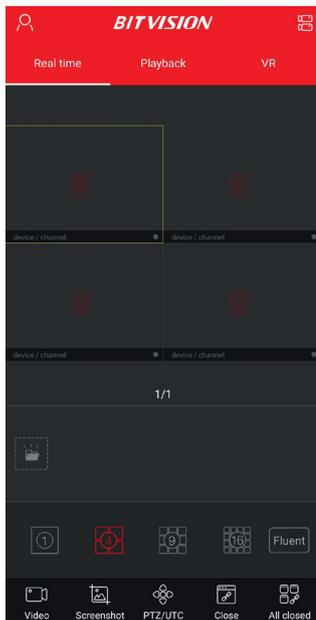
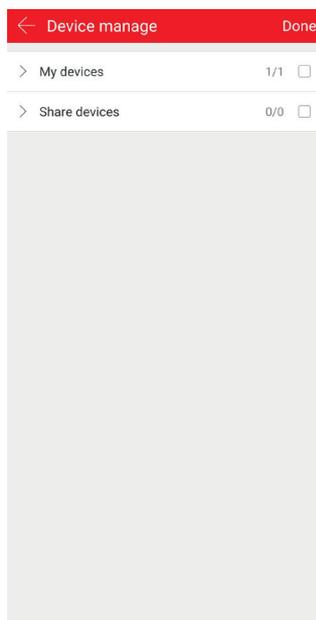

Fig.30
Fig.31
- Next, go to the main window of the application (Fig. 30) and click on one of the rectangles intended for displaying camera images to open the window as in Fig. 31.